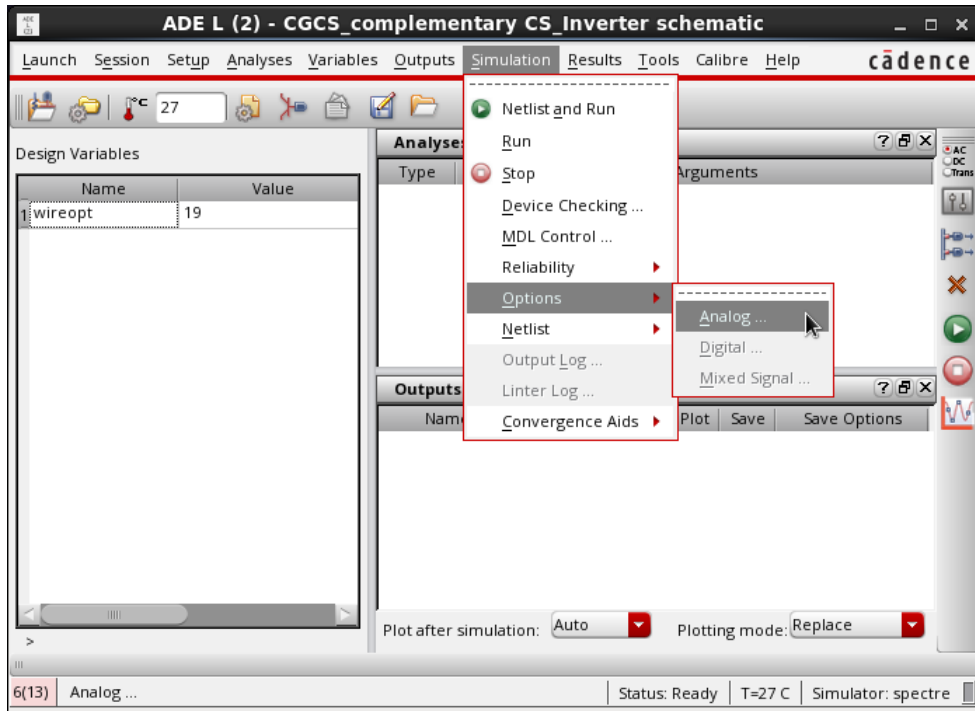
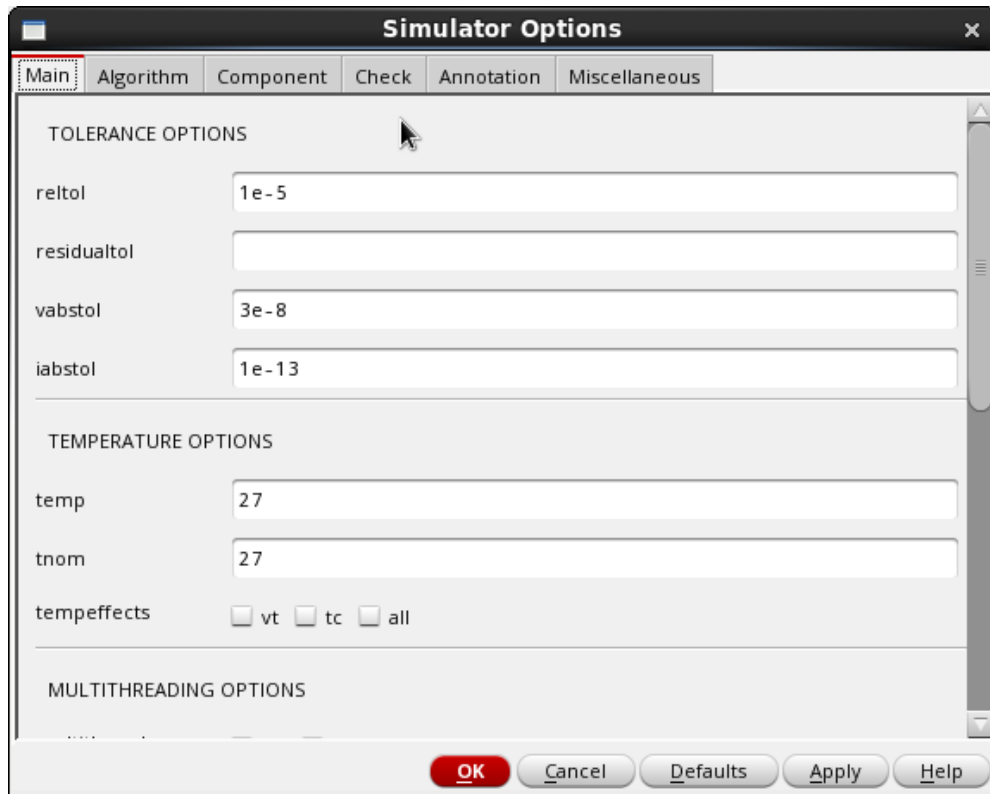

Fig. 2
Fig. 3
To reach satisfactorily reliable and precise results the default parameters of ADE should be changed. In this way the residual errors used by the equation solver to converge to the final result become smaller. Of course, nothing good comes for free, we pay it back by larger memory usage and longer simulation time. Therefore, the values shown in Fig. 3 are chosen for a moderate but satisfactory precision.
- Under Simulation>Options>Analog (Fig. 2), set the values in TOLERANCE OPTIONS according to Fig. 3.